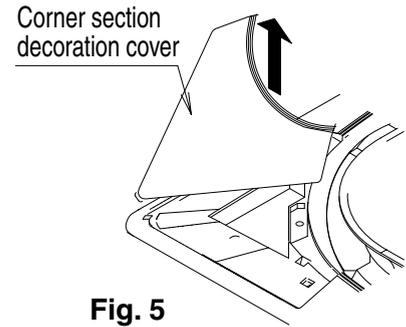

Fig. 5
(2) Remove the corner section decoration cover.
- Lift the four corner decoration covers in the direction of the arrow and remove. (Refer to Fig. 5)